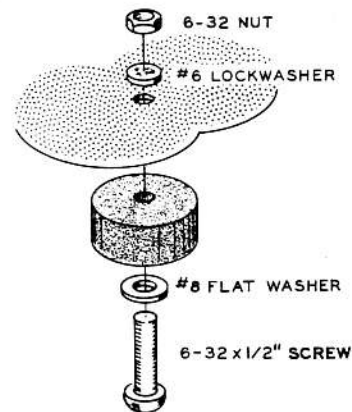

Figure 16
- () Mount the four rubber feet with 6-32 x 1/2" screws, #8 flat washers, #6 lockwashers, and 6-32 nuts as shown in Figure 16.